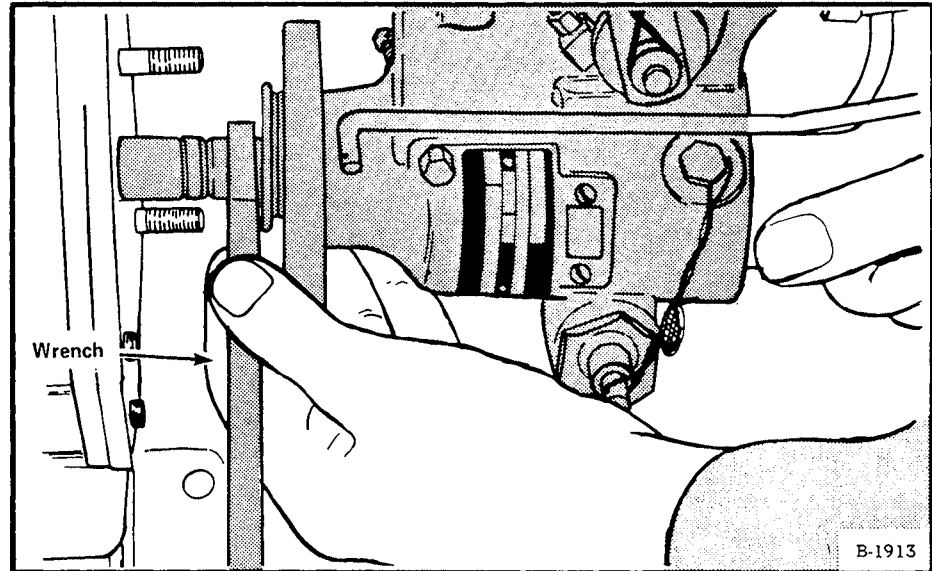

Fig. 8-53 Injection Pump Alignment
(1) Install injection pump drive gear and shaft (if removed) on engine front plate. Refer to page for proper method of timing injection pump drive gear.
(2) If engine has not been set on TDC (No. 1 cylinder on compression stroke) rotate engine in direction of rotation until No. 1 cylinder is on the compression stroke. Continue to rotate engine until timing pin engages hole in flywheel.
(3) Install pump over shaft. Be sure that reference mark on drive shaft tangs is aligned with the reference mark on the slot end of the distributor rotor in the pump.
(4) Compress seals on shaft and slide pump into place. Install hex nuts and tighten finger tight. Rotate pump, first in the direction of rotation and then in the opposite direction, and again register timing marks to take up all backlash (Fig. 8-53). Tighten mounting nuts securely.
(5) Continue to turn the engine until timing pin again engages flywheel. Check the alignment of injection pump timing marks. If pump timing is not correct, repeat the above procedure until the exact timing is obtained.
(6) Remove caps from injection pump and fuel pipe openings.